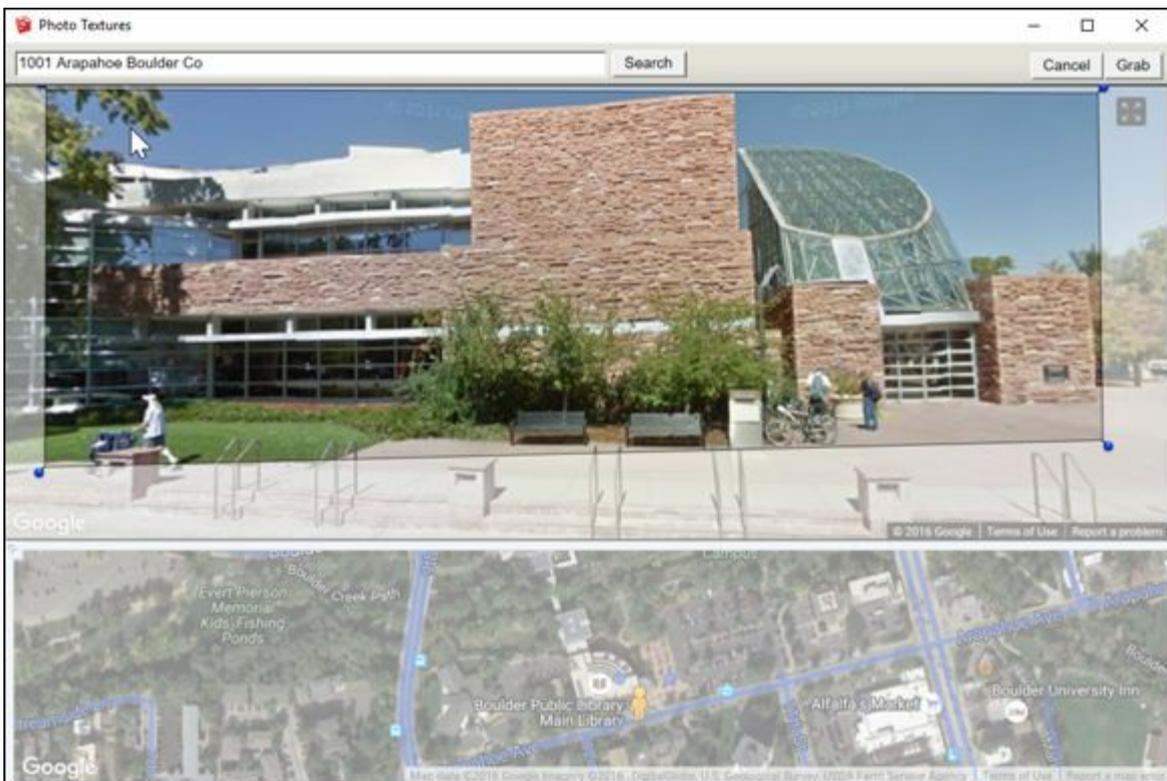

FIGURE 8-3: You can use the Google Street View imagery to photo-texture your model.
5. **Drag the blue pins to define an area to paint on the face you selected in Step 1. (See Figure 8-3.)**